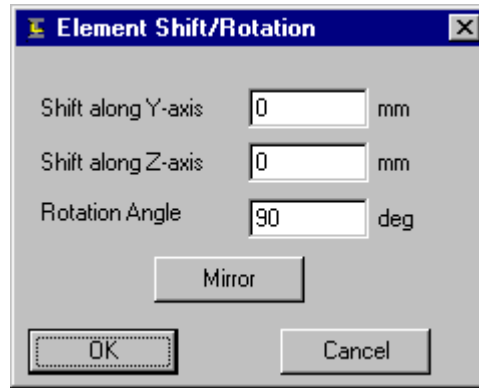

Fig. 48. Shift/Rotate Element dialog box
- ☞ in the **Rotate** field of the **Shift/Rotate Element** dialog box appeared (Fig. 48), an angle of positioning the angle in the section is shown (90°). To position the angle as required it should be rotated by 180° more, i.e. 270° must be specified in the **Rotate** field;
- ☞ as a result, the angle will be positioned as shown in Fig. 48;